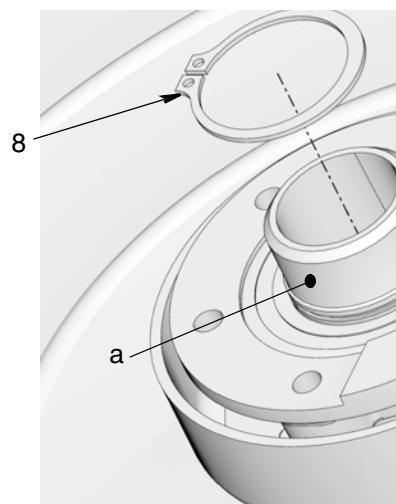

FIG. 24
- Use a snap ring pliers to remove snap ring (8) (FIG. 24).